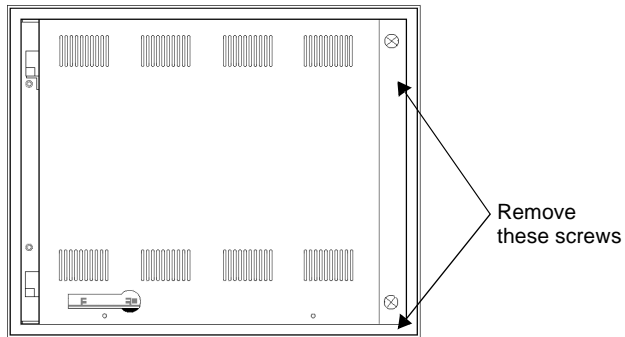

Figure 1: : Opening the Backshell
4. Remove the two screws securing the backshell to the faceplate assembly, as shown in Figure 1 on page 2.